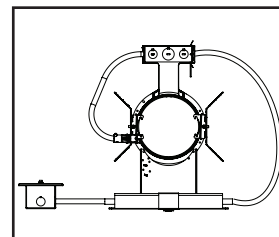
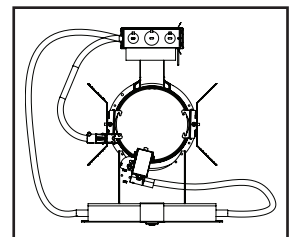

Figure 1.
Figure 2.
5. The test switch and indicator light may be provided for ceiling mounting near the fixture in a single gang switch box (Figure 1.) or mounted on the housing in an adjustable bracket to position directly in a reflector (Figure 2.).